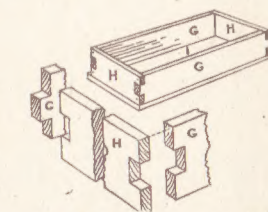

Fig. 4—Drawer construction
The method of making this is shown in the outline diagram at the top of Fig. 4. The jointing of the sides and ends of the drawer is given in the enlarged diagram in Fig. 4. To mark the jointing correctly divide the width of the pieces (G) and